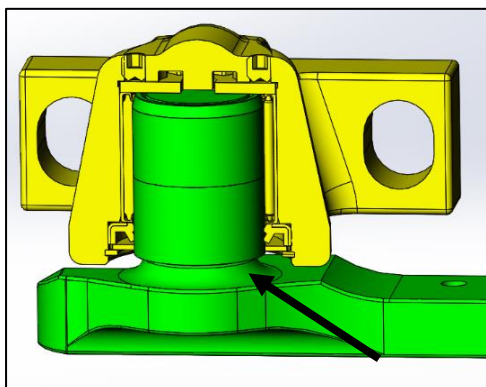

Figure 97
4. Once the seal is on inner race, push the knife head further onto the inner race by hand. **DO NOT** use a hammer or bench top vise to install knife head onto knife head. At the same time, you are pushing down slightly rotate back and forth to get the rollers aligned onto the inner race. It may be necessary to remove the grease fitting or at least press the check ball in while installing the knife head on the knife head. Figure 97